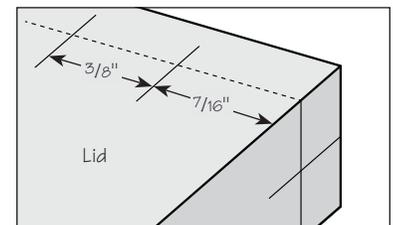

Figure 4: Slot location.
3. On the inside of the lid, mark the location of the two 3/8" long by 1/16" wide slots, centered on the hole and 7/16" in from the ends of the lid, as shown in Figure 4.